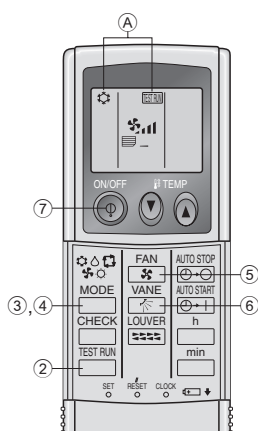

Fig. 7-5
7.2.2. Using wireless remote controller (Fig. 7-5)
- ① Turn on the power to the unit at least 12 hours before the test run.
- ② Press the **TEST RUN** button twice continuously.